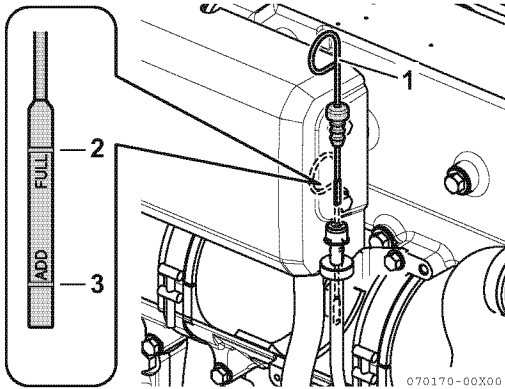

Figure 6
2. Remove dipstick (**Figure 6, (1)**) and wipe with clean cloth.
4. Remove dipstick. The oil level should be between upper (**Figure 6, (2)**) and lower (**Figure 6, (3)**) lines on the dipstick.
2. Fill with oil to the upper limit (**Figure 6, (2)**) on the dipstick (**Figure 6, (1)**).